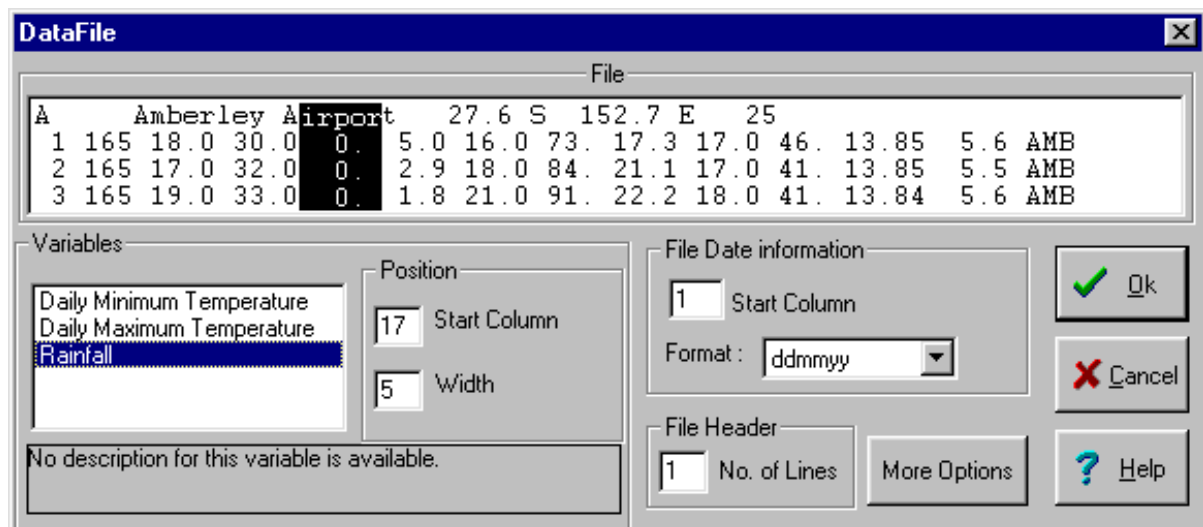

Figure 5.4 Data File Window
3. Select '**Format**' button to produce the '**Datafile**' window (fig 5.4).